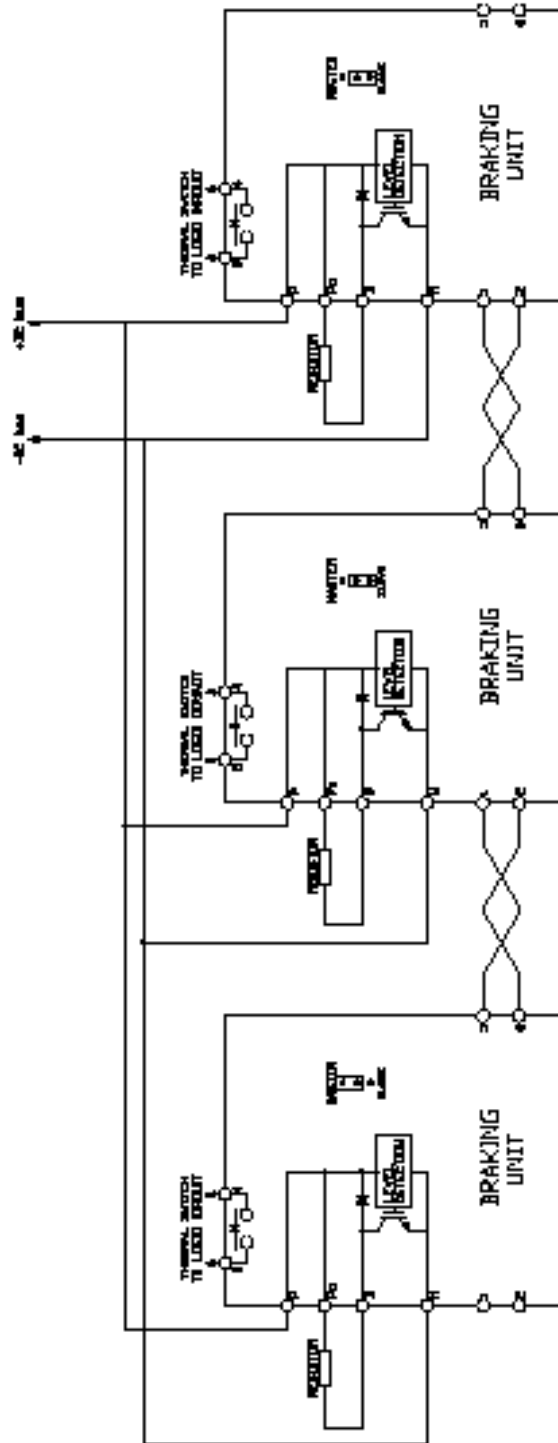

Figure 1-4: CDBR/CDBM Parallel connection of Braking Unit
7. Terminals 1, 2, 5 and 6 are used for **MASTER/SLAVE** Operation. Use twisted-pair wires of 14 AWG or smaller for connection between 5, 6, and 1, 2 on the braking units. Parallel connection is possible up to a maximum of 10 units. Refer to Figure 1-4 (page 1-14) for parallel connection of braking units.